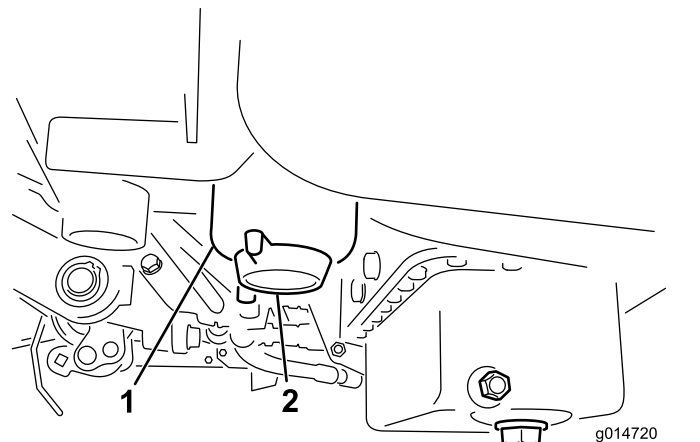

Figure 40
2. Clean the area where the filter canister mounts (Figure 40).
4. Open the filter drain plug (Figure 40).